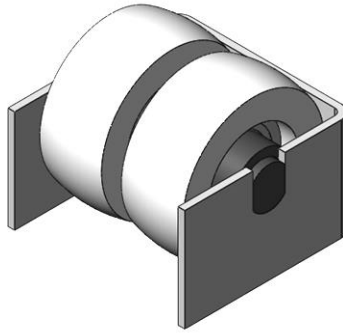

Fig. 4-4
- Remove all 24 idler wheels supporting the turntable rotation if there is excessive bearing play. If the diameter is less than 53mm or there is abnormal noise during operation, replace the bad contact rollers. (See *Fig. 4-4*)